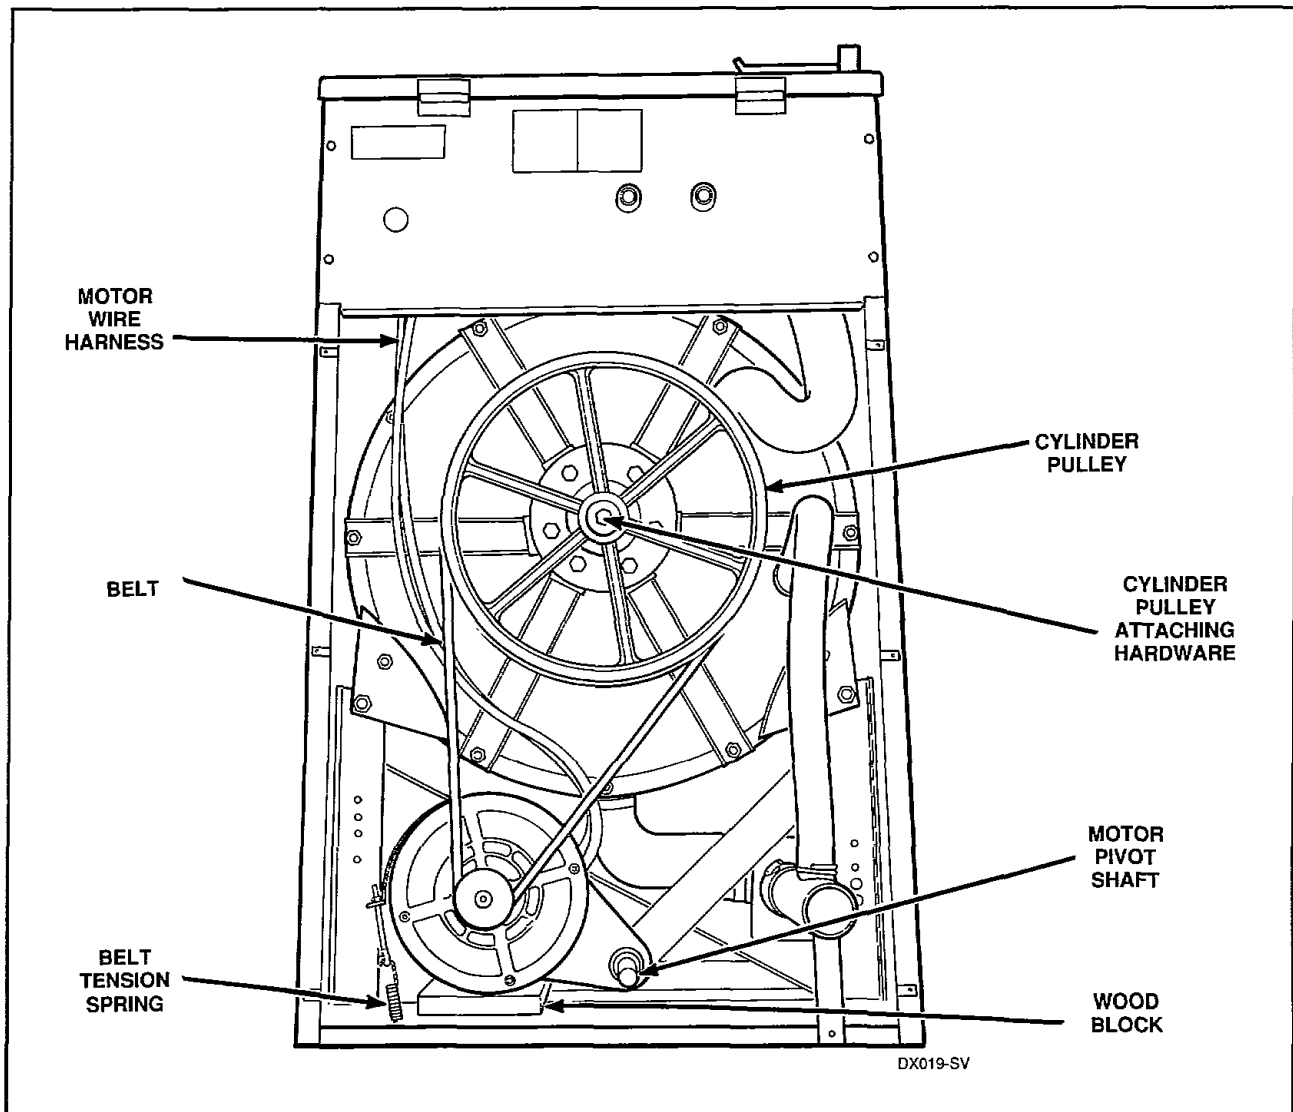

Figure 10
- Run belt(s) off cylinder pulley while slowly turning pulley, *Figure 10*.
- g. Run belt(s) off cylinder pulley while slowly turning pulley, *Figure 10*.
NOTE: Block the motor in a way that will support itself when the motor support rod is removed, *Figure 10*.